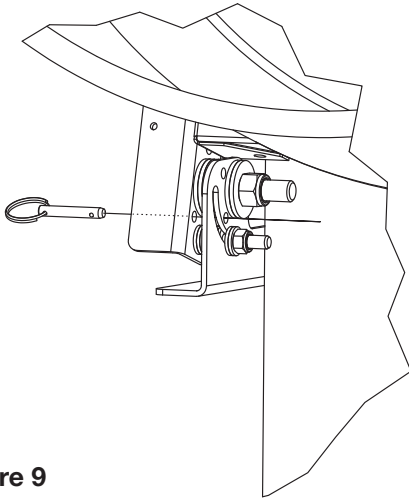

Figure 9
13. To lock hinge in open position, insert detent pin or 1/4" - 20 x 2 1/2" shoulder bolt and flange nut through the locking hole of the upper bracket and into the bottom locking hole of the lower bracket as shown in Figure 9.